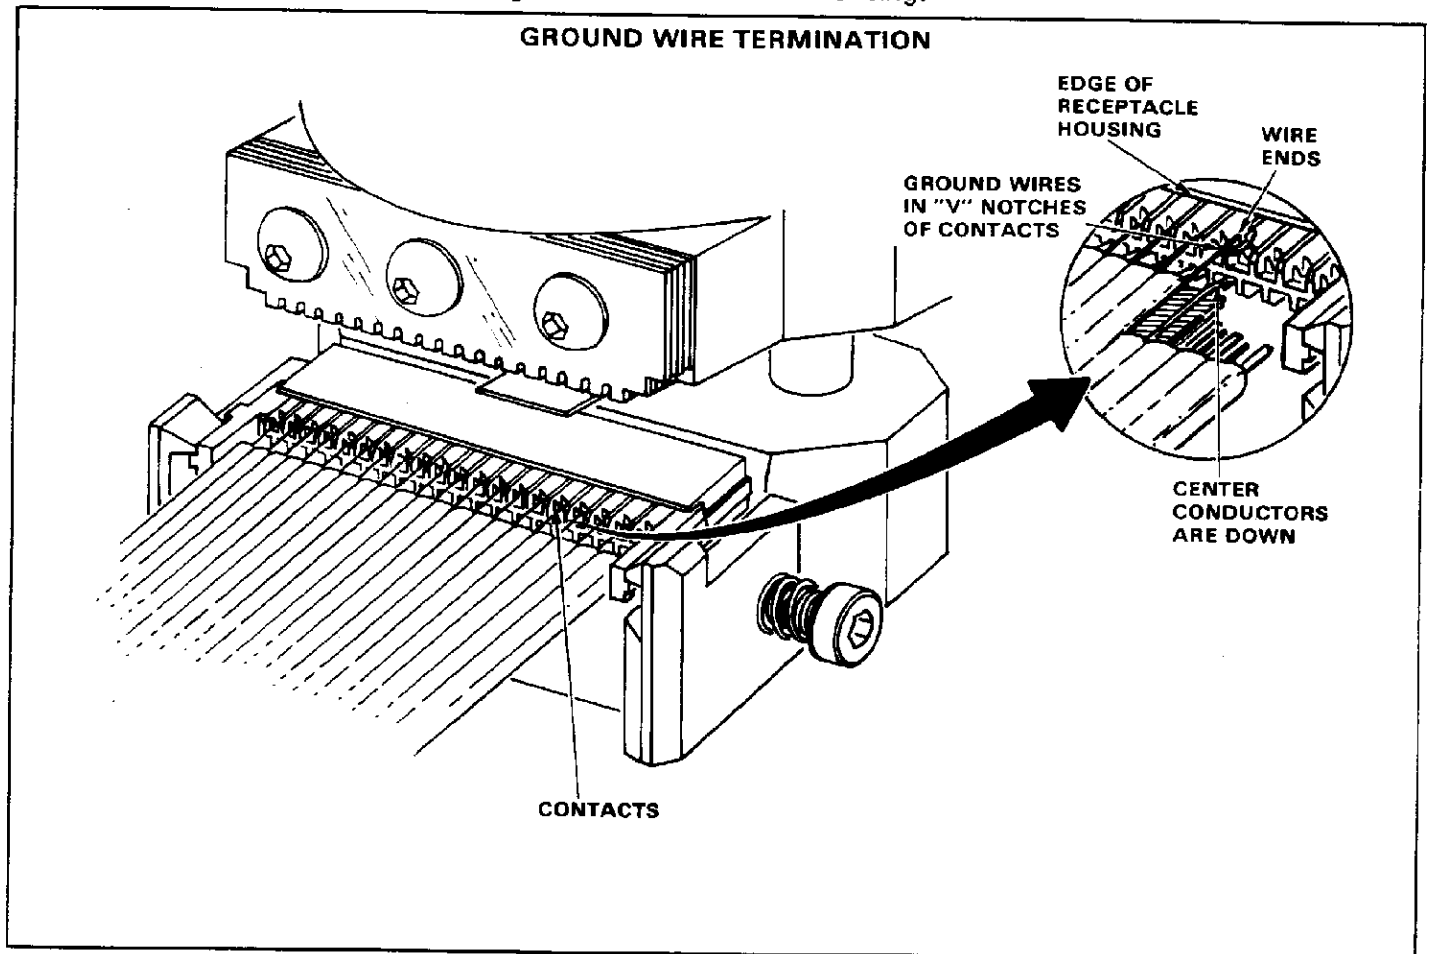

Fig. 5
2. Lay ground wires on contacts as shown in Figure 5. If necessary, use comb to align wires with "V" notches of contacts.
Center conductors are down, as shown in breakaway view of Figure 5.
3. Ensure that wires extend through at least half the distance between contacts and housing. See Figure 5.